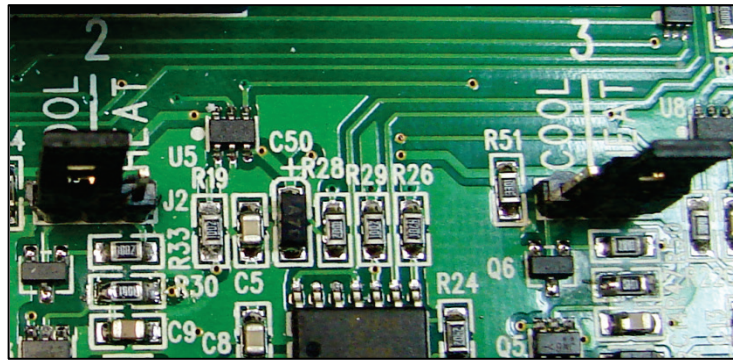

Figure 6: Cooling and Heating Jumpers
- On each relay, place the jumper over the required pins. Figure 6 displays two examples.